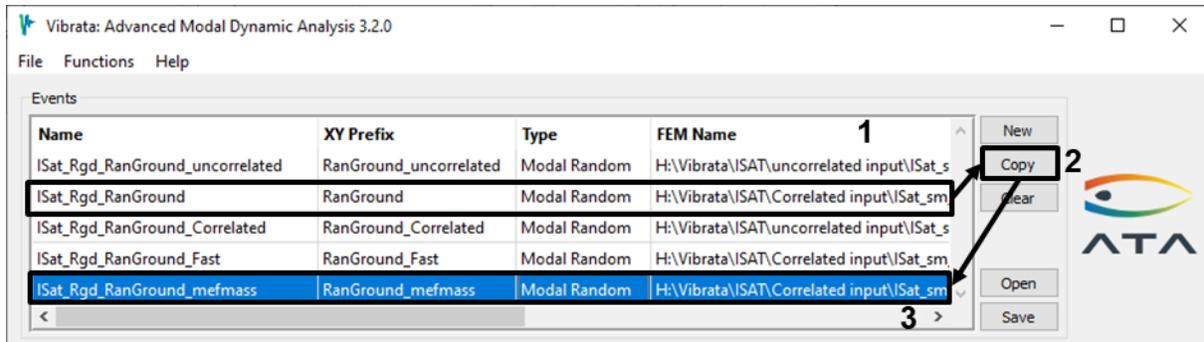

Figure 4-69. Copy the original rigid-base event; the new one will exclude modes with negligible effective mass.
1. In the Event Manager, copy the event from section 4.3.2 using the **Copy** button and then assign a new name to the new event (Figure 4-69).